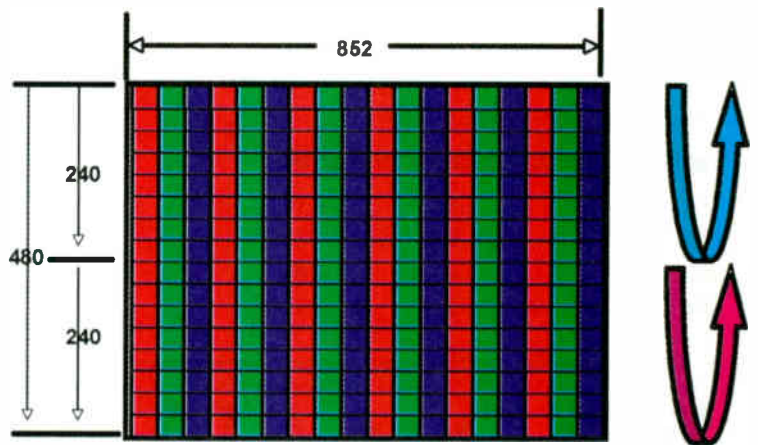

Fig. 9: Simultaneous scanning of the upper and lower parts of a PDP.
Each sub-field (SF) is given a brightness weighting that's determined by the length of the sustain period. A sub-field with a short discharge period results in low brightness and vice versa. Table 2 shows a simple binary weighting. The total brightness of each plasma cell is the summation of the brightness contributed by each sub-field. Fig. 9 shows the sustain periods for each sub-field.
In order to increase the time available for the addressing period, to suit high-resolution panels where the number of lines can exceed 1,000, 'dual scanning' is used. The screen is divided into two halves, upper and lower, the two halves being scanned simultaneously, see Fig. 9. This doubles the time available for addressing each line. Simultaneous scanning requires two independent panel drive systems however, thus increasing the cost.